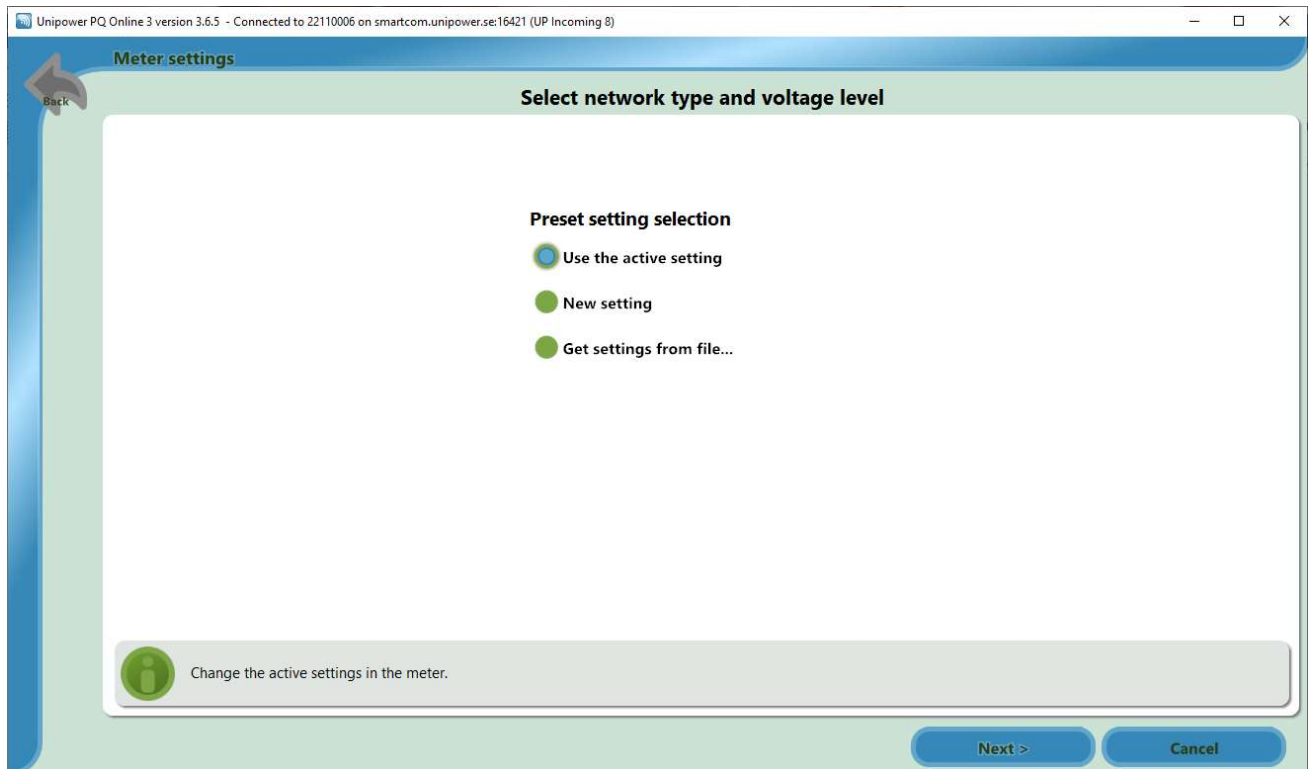

Figure 64
- Select either to create new settings, modify the current settings or get settings from file see Figure 64 below.